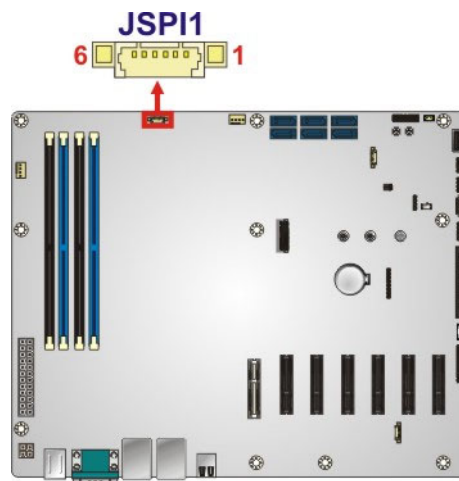

Figure 3-23: BIOS SPI Flash Connector Location
- CN Location:** See **Figure 3-23**